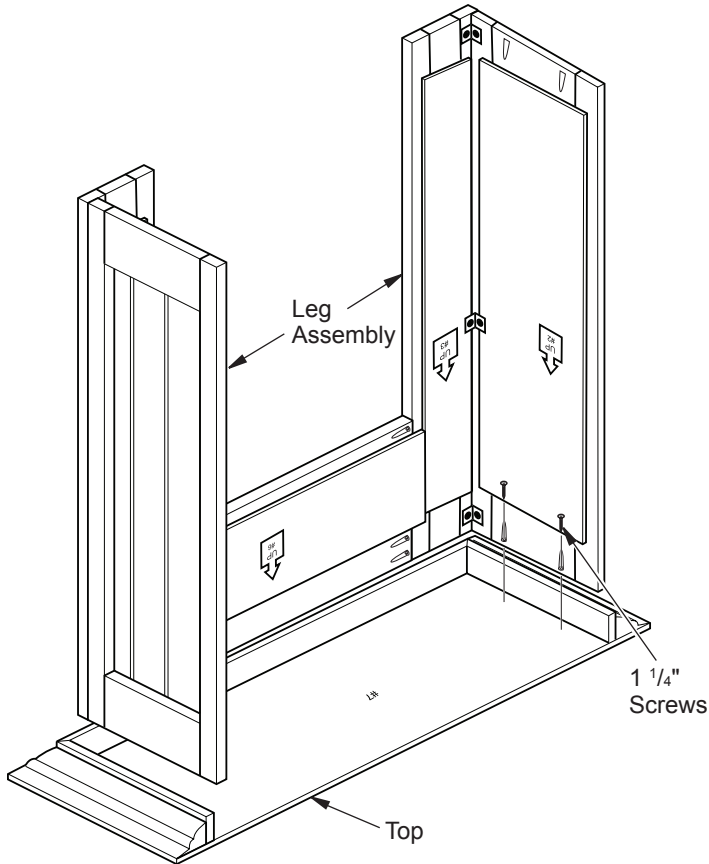

Figure 5 - Placing Mantel Assembly onto Mantel Top
4. Turn top (#7) and leg assembly upside down. Place leg assembly inside top (see Figure 5, page 3).
5. Make sure rear of leg assemblies are flush with back of top and mantel is centered left to right inside top. Square leg assemblies evenly with sides of mantel top, making certain gap between mantel top and leg assembly is the same from front to back. Use 1 1/4" screws in pocket holes in sides to attach to top of mantel (see Figure 5, page 3).